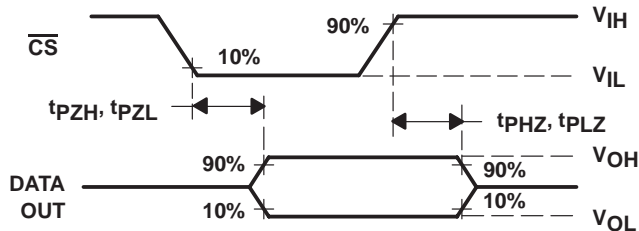

Figure 8. DATA OUT to Hi-Z Voltage Waveforms
- I/O CLK period = $1 / (\text{I/O CLK frequency})$ (see Figure 8).